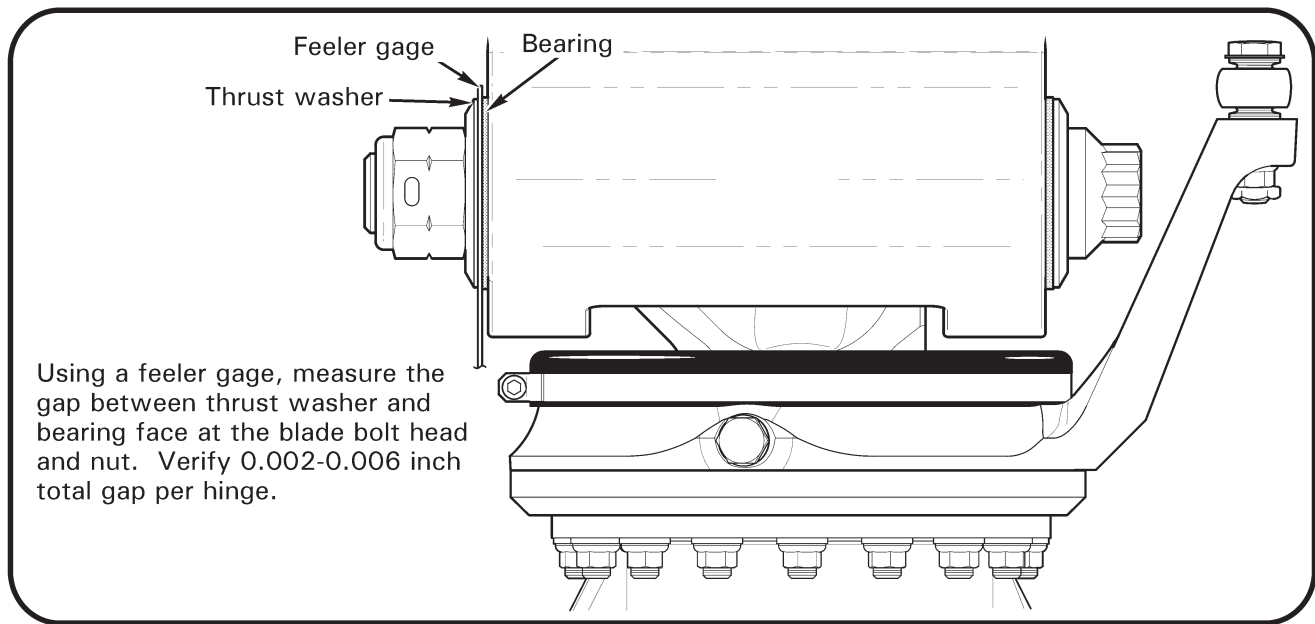

FIGURE 28-9 MEASURING CONING HINGE AXIAL GAP
3. If same hub will be installed, measure teeter hinge friction per Figure 28-9 and record value.